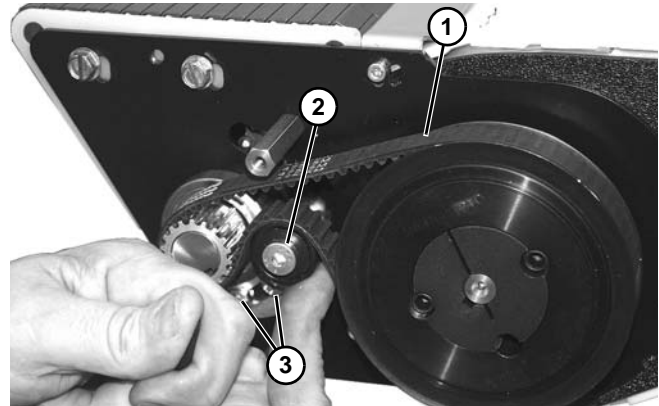

Figure 163
- On idler end, route and install belt (**Figure 163, item 1**) as shown. Press up on tensioner (**Figure 163, item 2**) and tighten two socket head screws (**Figure 163, item 3**).